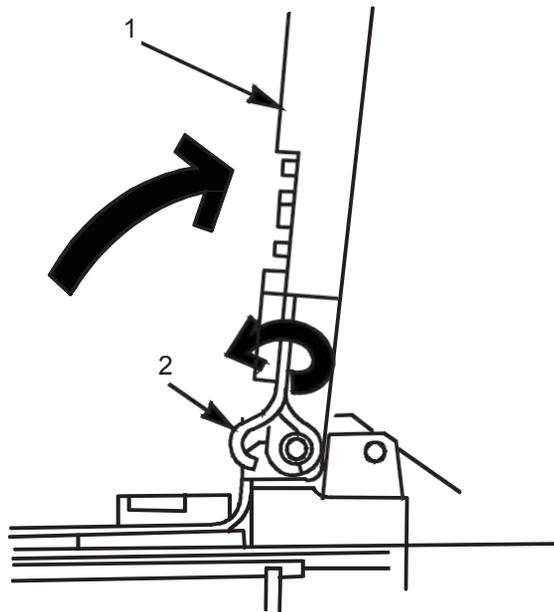

Figure 1. Cover and Feed Mechanism Assembly, Retaining Pin.
1. Open cover and feed mechanism assembly (Figure 1, Item 1) and rotate hooked, retaining pin (Figure 1, Item 2) 180 degrees.